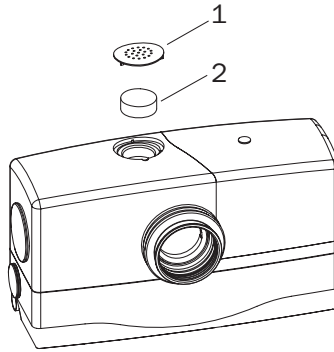

Figure 10
2. Remove the filter cover and the carbon filter (see page 45, fig. 10).